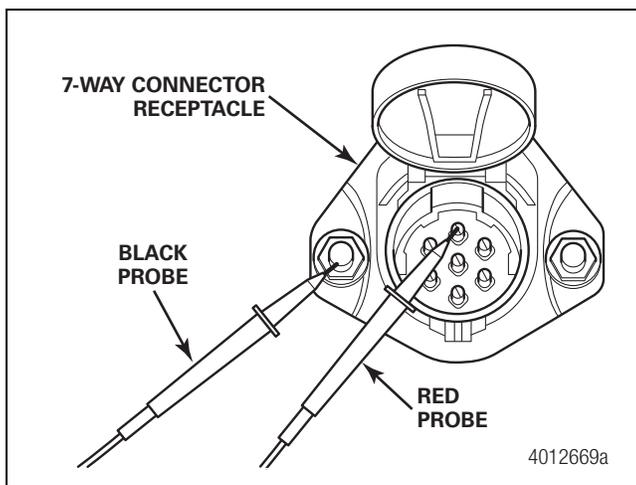

Figure 1
3. Using a digital volt ohmmeter (DVOM), measure the resistance from the J560 7-way ground pin (the large pin at the top of the receptacle) to a metal component on the trailer chassis. Figure 1.
11. Check the resistance from the top pin of the J560 7-way connector to both mounting studs to verify it is less than 10 ohms (<10  $\Omega$ ). Figure 1.